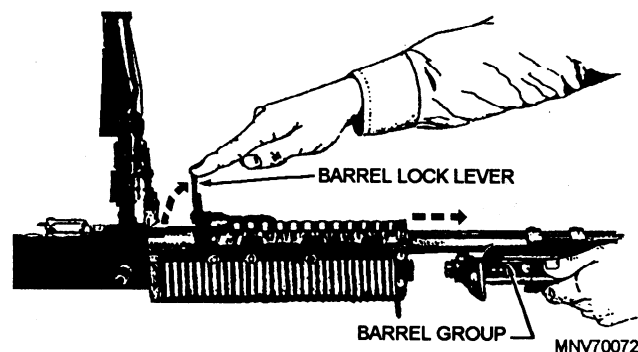

Figure 2-59.—Removing the barrel assembly.
suppressor, the front sight bipod assembly, and the gas cylinder. To remove the assembly, raise the barrel lock lever to the vertical position and remove the barrel assembly by pulling it to the front as shown in figure 2-59.
1. Make sure the barrel lock lever is in the vertical position, as shown in figure 2-59. Insert the rear of the barrel under the barrel cover and align the gas cylinder nut with its recess in the forearm assembly. Lower the barrel lock lever.